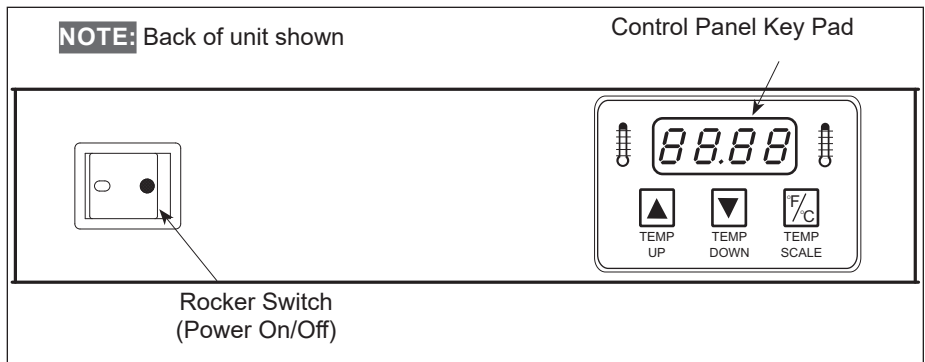

Figure 3. Controls
3. To change the display from Fahrenheit to Celsius and back, press and hold the Temp Scale button (Figure 3) for 2-3 seconds and release.